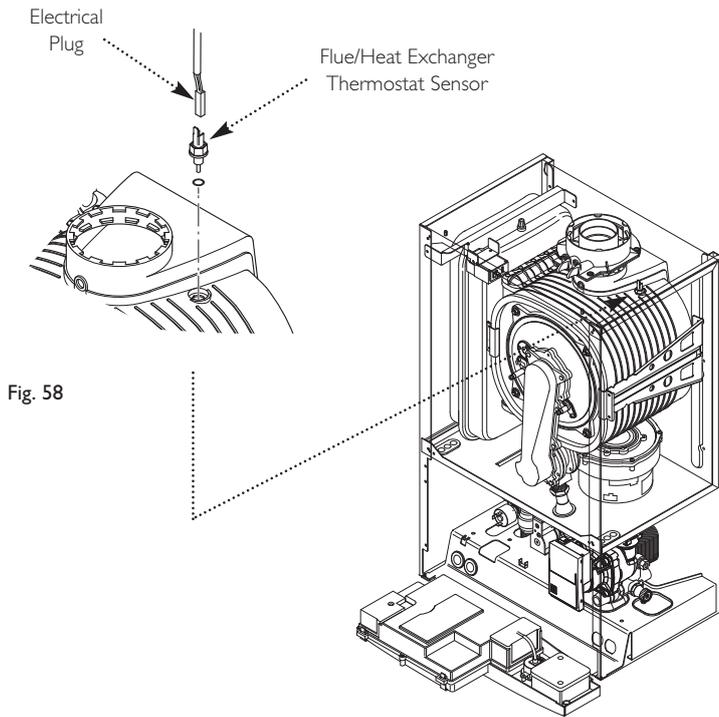

Fig. 58
13.8 Flue/Heat Exchanger Thermostat Sensor (Fig. 58)